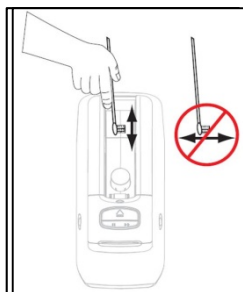

Figure 2
- 5 Refer to Figure 2. Using the cleaning swab and vertical strokes, clean the gold media cartridge sensor pins, which are visible at the back of the media cartridge slot. Allow the solution to evaporate before proceeding.